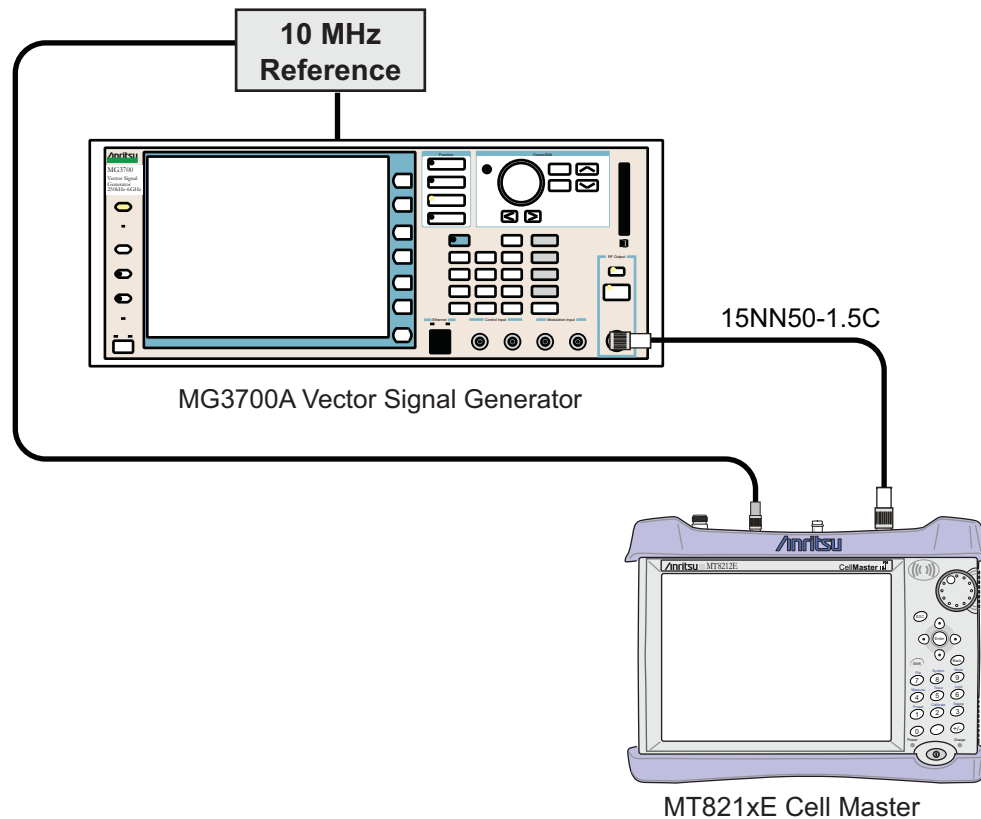

Figure 5-14. Frequency Accuracy and Residual MER Verification
1. Connect the 10 MHz External Reference signal into the MG3700A and Cell Master as shown in Figure 5-14.
1. Connect the 10 MHz Frequency Reference source to the Anritsu MG3700A and Cell Master as shown in Figure 5-14 on page 5-77.